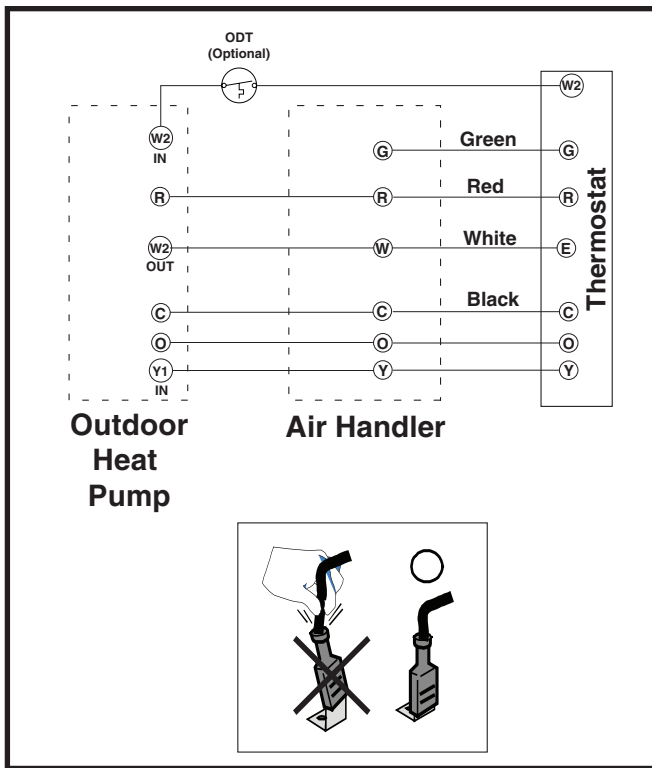
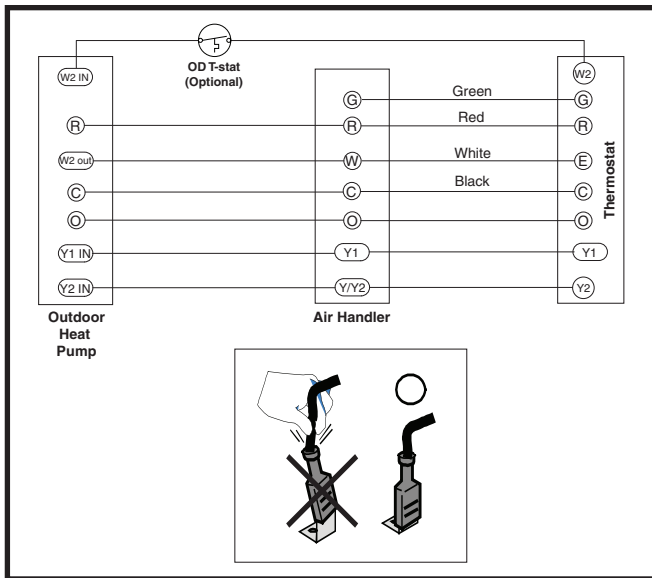

Figure 4. Thermostat Connections for SH1BF4M1SP 2 - 4 Ton Units
Figure 5. Thermostat Connections for SH1BF4M2SX 5-Ton Units
- Thermostat connections should be made in accordance with the instructions supplied with the thermostat and the indoor equipment. For typical installations with a heat pump thermostat and air handler see Figure 4 \(page 6\) and Figure 5 \(page 6\).